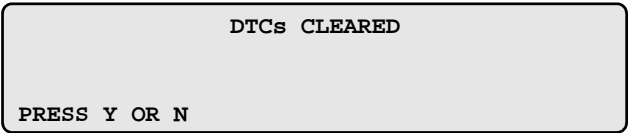

Figure 8-27 Typical ABS codes cleared screen message
4. The DTCs Cleared screen appears (Figure 8-27)